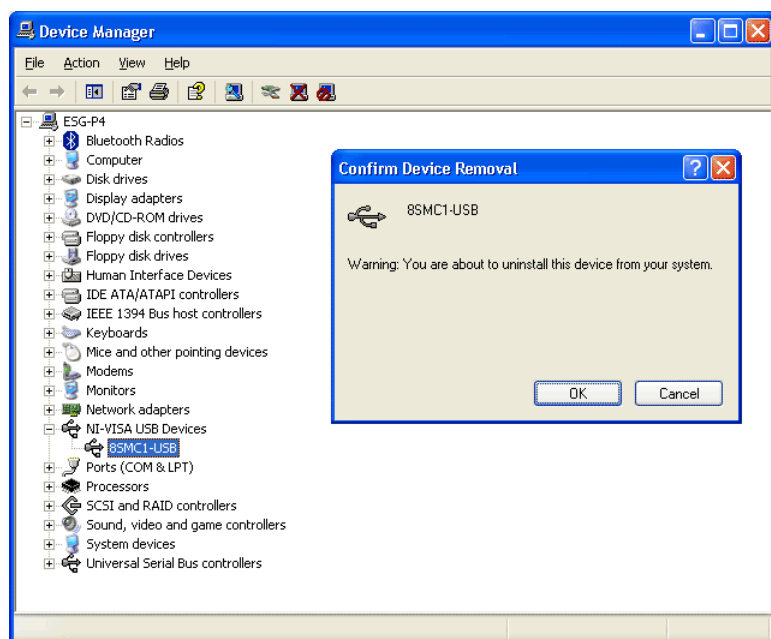

Figure 68. Uninstallation of NI VISA driver
- Open Device Manager (choose My Computer then right click->Properties->Hardware->Device Manager), choose your 8SMC1-USBh device (it should be connected and switched on) and remove it (press Delete button, see Figure 68). 8SMC1-USBh device will be disappeared from Device Manager list.